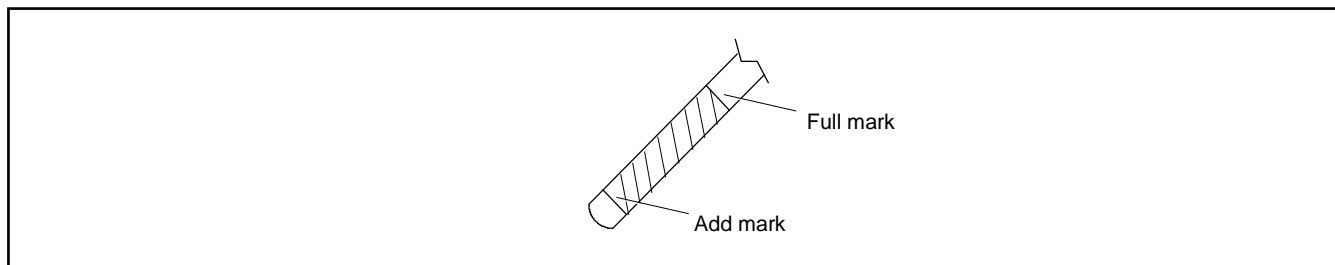

Figure 17 Oil Dipstick
5. Pull out the dipstick again to check the oil level. The oil level should be maintained between the Full and Add marks. See Figure 17.